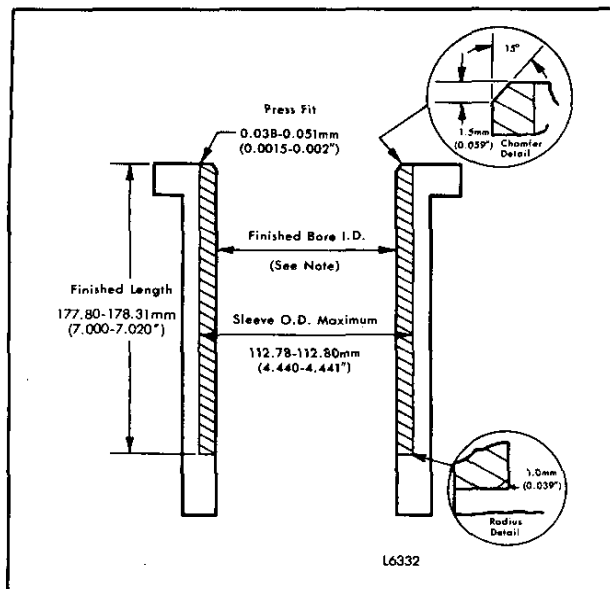

Fig. 9 - Dimensions After Installation
8. Refer to the sleeve O.D. dimensions recorded in Step 3, and bore cylinder bores to diameters that establish a 0.038-0.051 mm (0.0015-0.002") press fit between sleeves and cylinder bores (Fig. 9). Follow the manufacturer's instructions on correct boring machine usage.
11. Using a suitable cutting tool in the boring bar, machine a 15° chamfer on the top of the sleeve to facilitate piston ring installation (Fig. 9).